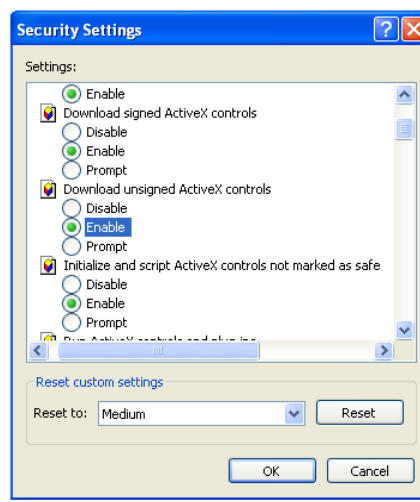

Fig 8-2
③ Enable all the sub options under "ActiveX controls and plug-ins" refer to Fig 8-2
④ Then click ok to finish setup.